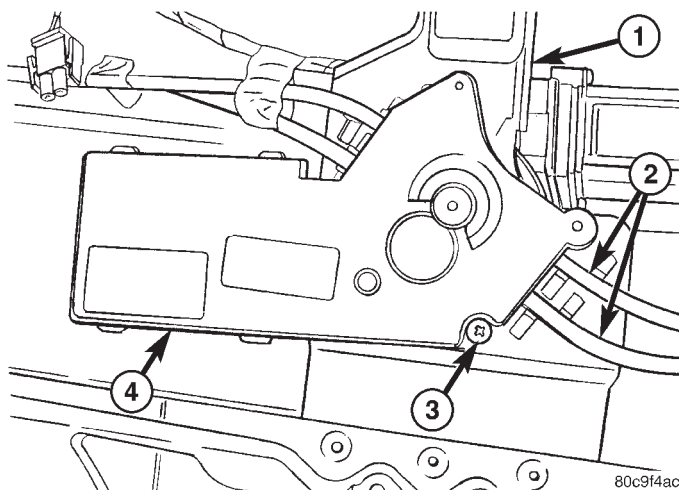

Fig. 12 CONTROL MODULE
- (3) From top side of module assembly, remove one attaching screw from electronics module. (Fig. 12)